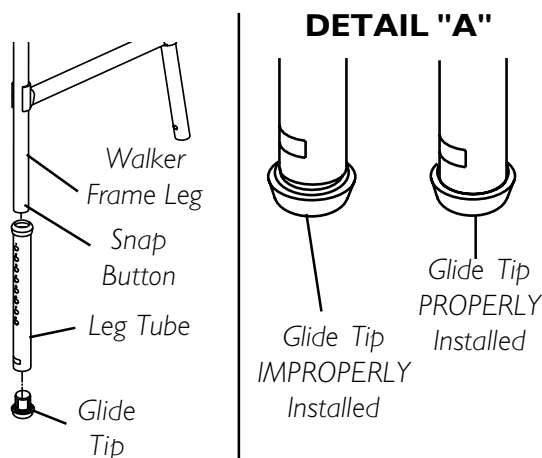

FIGURE 3 - INSTALLING THE GLIDE TIP
INSTALLING THE GLIDE TIP (FIGURE 3)
4. Ensure the NEW glide tip is properly installed as shown in DETAIL "A" of FIGURE 3. If necessary, tap new glide tip into position.